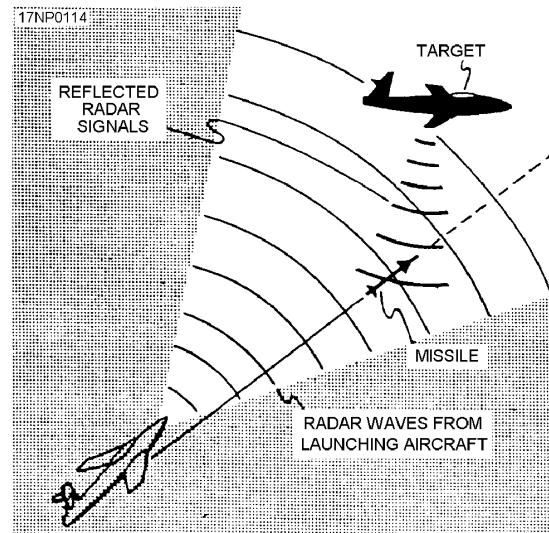

Figure 3-4.—Semiactive homing system.
**SEMIACTIVE.**—In the semiactive homing system (fig. 3-4), the missile gets its target illumination from an external source, such as a transmitter carried in the launching aircraft. The receiver in the missile receives the signals reflected off the target, computes the information, and sends electronic commands to the control section. The control section functions in the same manner as previously discussed.